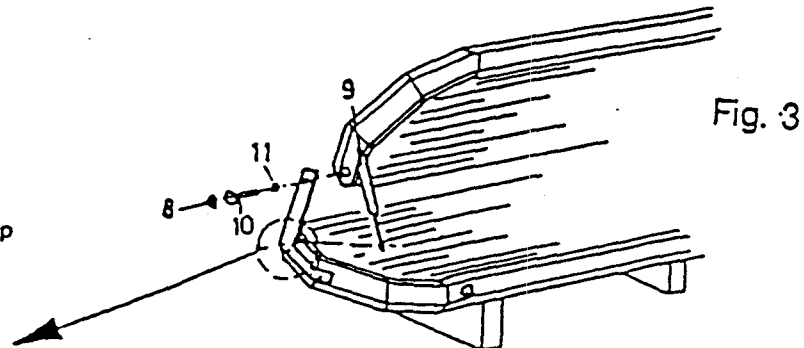

Fig. 3
Tighten the screw of the gas pistons (9) to the ball head on the front sides of the tanning canopy (Figure 3).
Next, place the tanning canopy with the mounted rotary parts to the arms and fix with hexagon screws (10) and U-disc (11). Then screw the arms to the bench unit (Figure 3).